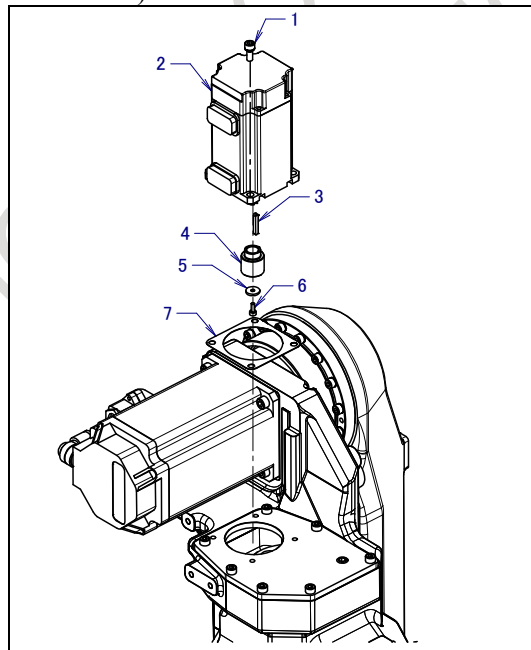

Fig. 6.9 (a) Replacing the J4-axis motor
- 6 As shown in Fig. 6.9 (a), remove the three bolts (1) that fasten the J4-axis motor to the J3 casing, and dismount the motor.
- 7 Remove the bolt (6) that fastens the gear (4) to the motor shaft, and dismount the washer (5), gear (4) and key (3).
- 8 Mount the gear (4) to a new motor, apply LOCTITE 243 to the threaded portion of the motor shaft, and fasten them with a bolt by tightening with a torque of [1.3 Nm]. (Ensure the specified torque is achieved otherwise, the J4-axis may get out of place.)
- 9 Replace the gasket (7) with a new one and put it in the J3 casing portion where the motor is to be mounted accurately, and fasten the motor to the J3 casing with bolts (1).